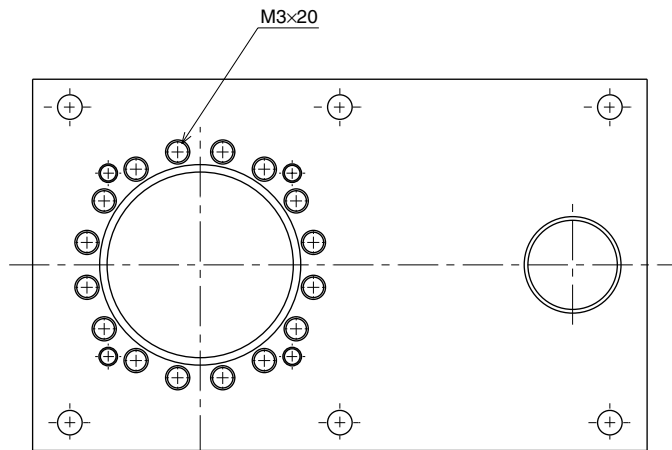

Fig. 5-5
- 11) Remove the X-axis harmonic drive installation bolts (M3×20L, 16 pieces). (See Fig. 5-5.)
- 13) Fit an O-ring (supplied with the harmonic drive) coated with harmonic grease into the O-ring groove on the new harmonic drive. Apply small amounts of “Screw Lock” to the bolts (M3×20L, 16 pieces) and tighten them to secure the harmonic drive from the backside of the base. (See Fig. 5-5.)